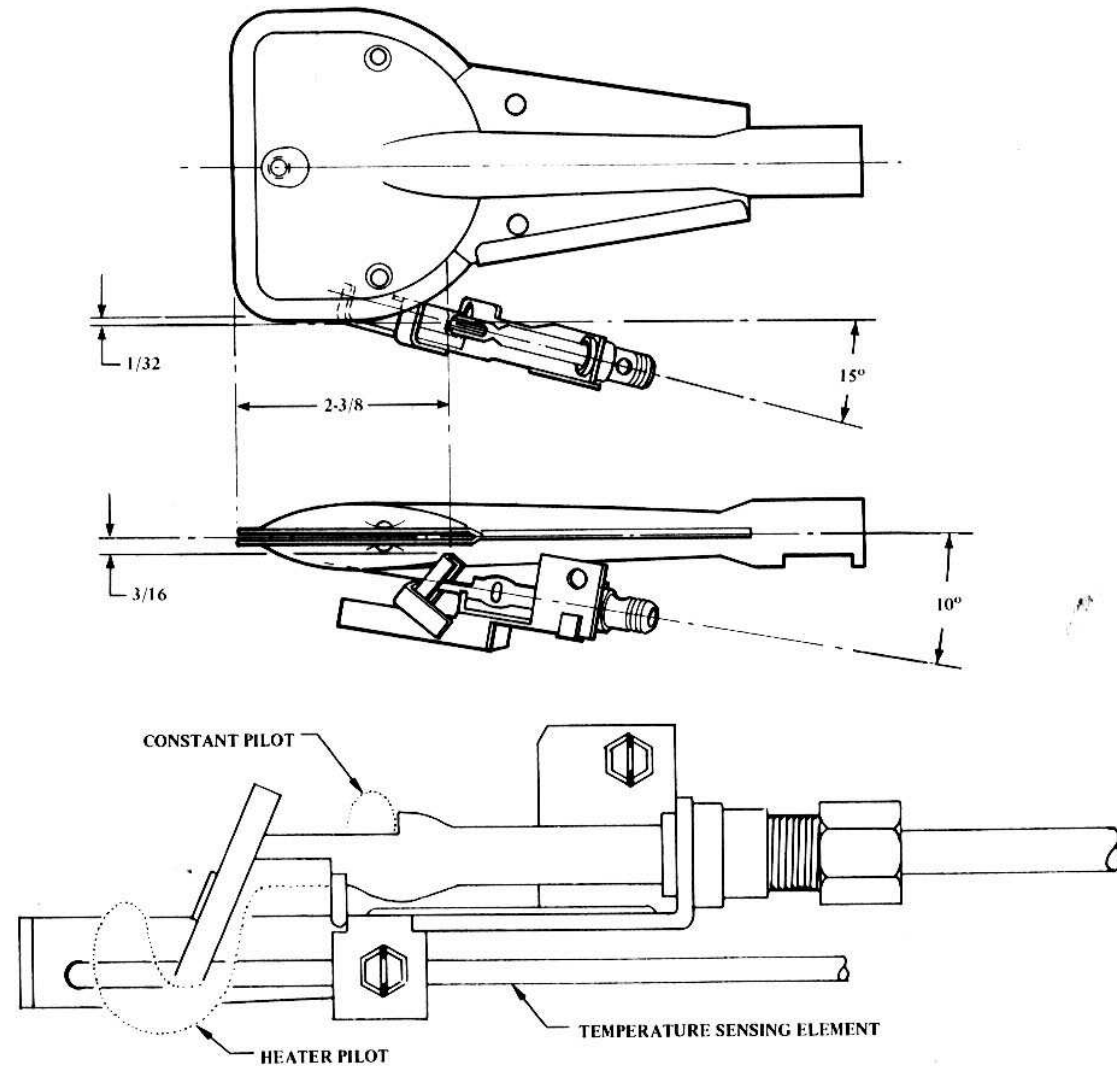

Fig. 3
a. Constant pilot not lit.	Check to see that constant pilot is lit (See Fig. 3)
b. Pilot assembly out of position	Position pilot assembly. (See Fig. 3 for pilot location in oven.)
c. Safety valve sensing element not positioned.	Loosen screw and position as shown in Fig. 3.
f. Safety valve will not open with proper heater pilot setting.	Check position of sensing bulb. (See Fig. 3)